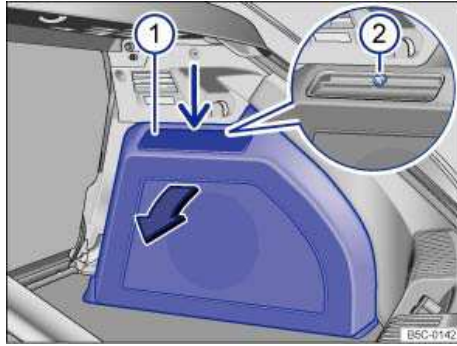

Fig. 177 In the right side of the luggage compartment: Removing the subwoofer.
| 3. | Carefully pry the cover out from the upper side ⇒ fig. 177 (1) (thin arrow) using a flat object.